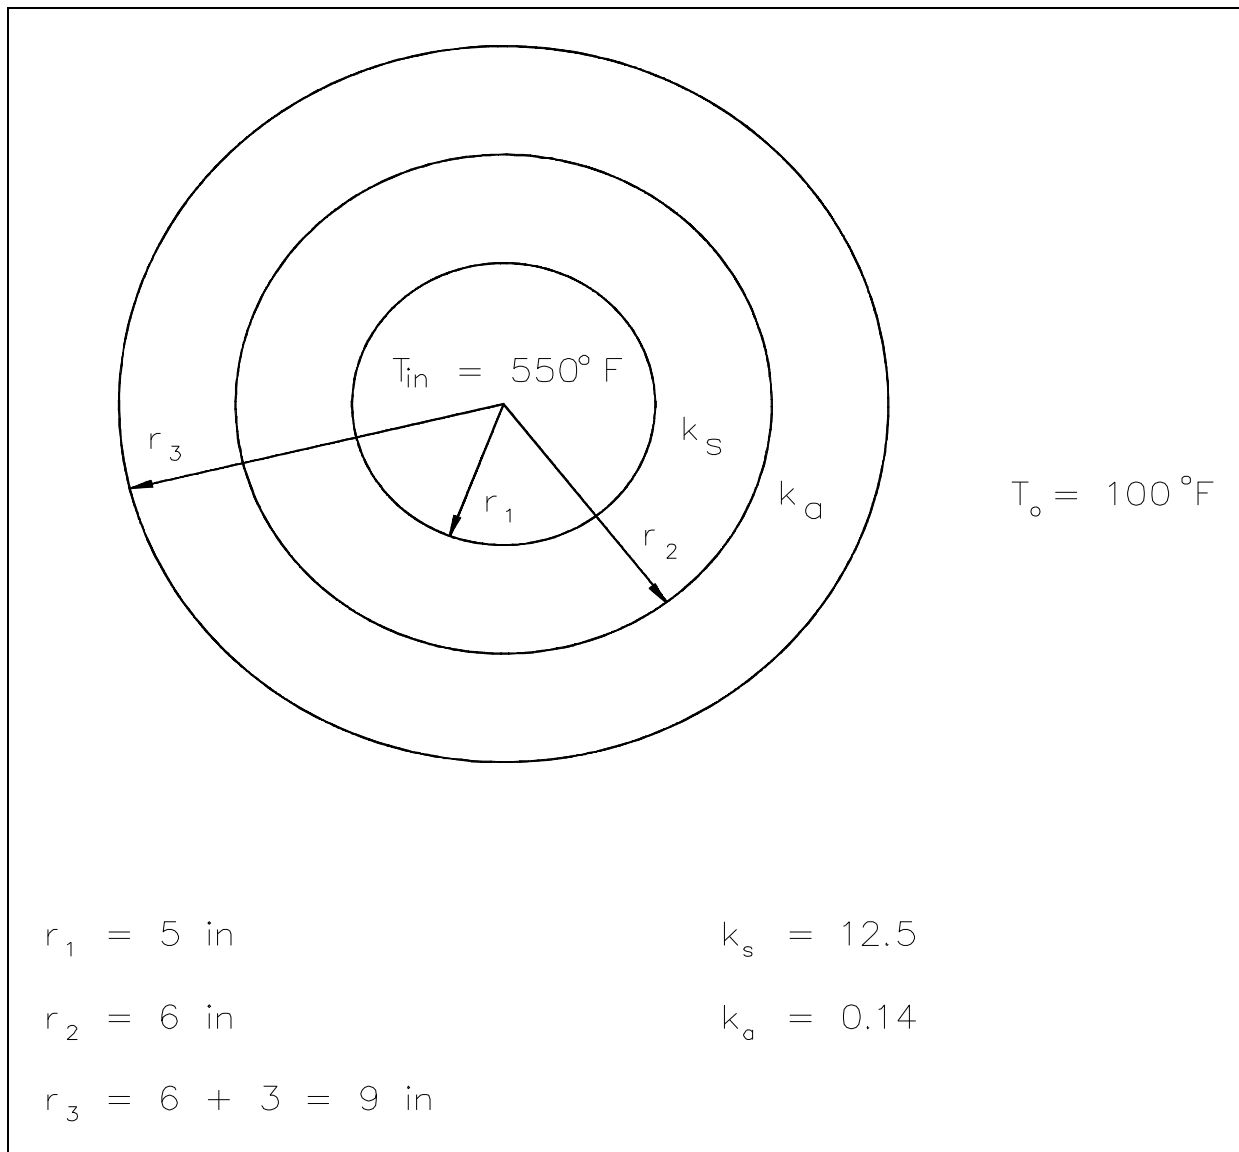

Figure 5 Pipe Insulation Problem
A thick-walled nuclear coolant pipe ( $k_s = 12.5$  Btu/hr-ft-°F) with 10 in. inside diameter (ID) and 12 in. outside diameter (OD) is covered with a 3 in. layer of asbestos insulation ( $k_a = 0.14$  Btu/hr-ft-°F) as shown in Figure 5. If the inside wall temperature of the pipe is maintained at 550°F, calculate the heat loss per foot of length. The outside temperature is 100°F.